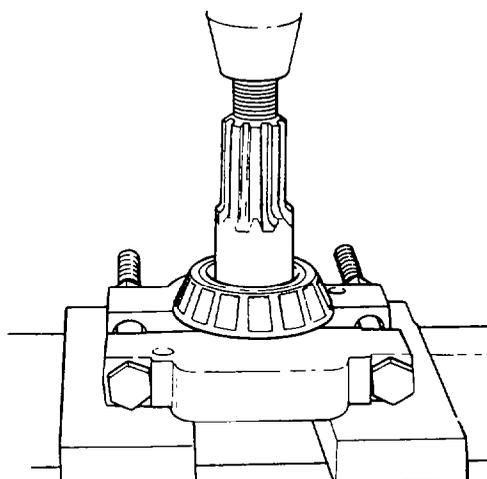

Fig. 347 — Removing Inner Pinion Bearing
- d. Remove the bolts (item 42) and washers (item 41) securing the pinion cage (item 40) to the carrier (item 28); use a hammer and brass or soft drift to drive the pinion assembly out of the carrier. **DO NOT** allow the pinion assembly to fall onto the ground or other hard surface. Take note of the thickness and number of the shim (item 39) under the flange on the pinion cage, for easier adjustment during reassembly.
- e. Secure the drive flange (item 44) in a bench vice then remove the locknut (item 46) and washer (item 45) from the assembly; use a soft drift and hammer to drive the pinion shaft from the flange; **DO NOT** allow the pinion shaft to fall onto the ground or other hard surface.
- f. Remove the inner and outer bearing cups (item 38) from the pinion cage, after removing the oil seal (item 43).
- g. Remove the spacer (item 37) from the pinion shaft, then using a press and suitable collar, remove the inner pinion bearing (item 36) and pilot bearing (item 31) from the pinion shaft (see fig. 347).